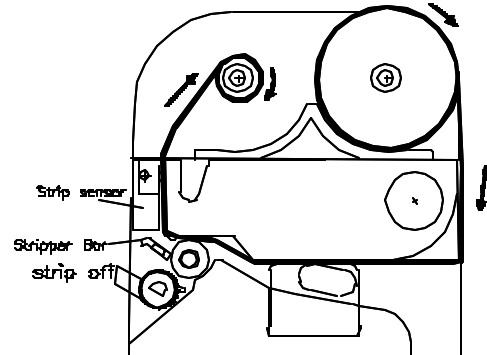

Fig. 2.2.5
10. Put back the printer head assembly and fasten it by pressing down from the top of it (see figure 2.2.5).